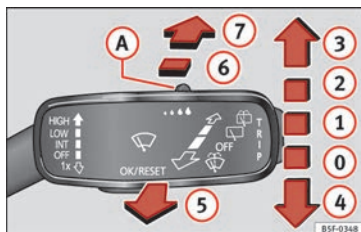

Fig. 40 Operating the windscreen wiper and rear wiper.
1	INT Windscreen wipers interval wipe. Using the control » Fig. 40 (A) adjust the interval (vehicles without rain sensor), or the sensitivity of the rain sensor.